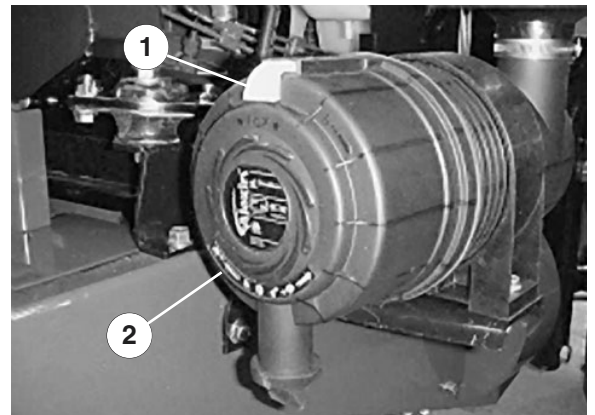

Figure 23
1. Pull the latch outward and turn the air cleaner cover counter-clockwise. Remove the cover from the body (Fig. 23). Clean inside of the air cleaner cover.